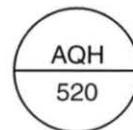

Figure 56. Instrument Tag
13. Determine the measured variable indicated in the instrument tag in figure 56.